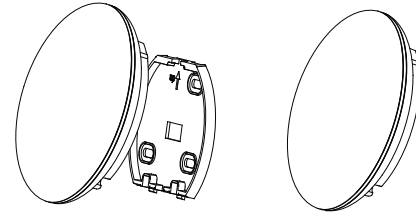

Figure 24.
- After aligning the front cover, carefully clip onto Internal PCB Plate and taking care to avoid clamping the loom during installation. Refer to Figure 24.